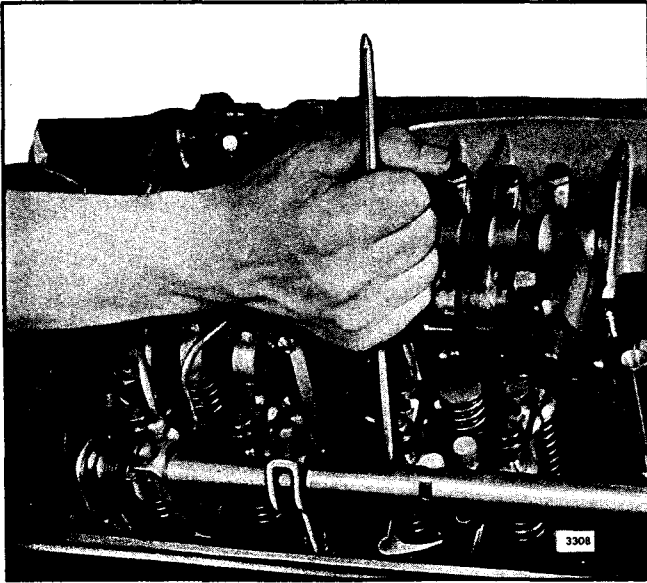

Fig. 2 - Removing Injector from Cylinder Head
8. Free the injector from its seat as shown in Fig. 2 and lift it from the cylinder head.